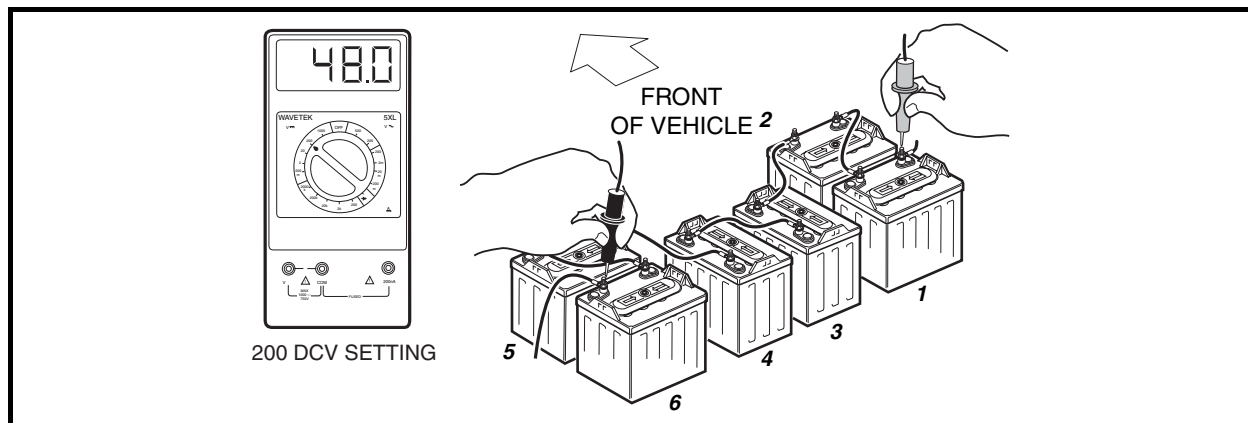

Figure 11-7 Battery Test
1. With batteries connected and using a multimeter set to 200 volts DC, place red (+) probe on the positive (+) post of battery no. 1 and the black (–) probe on the negative (–) post of battery no. 6 (**Figure 11-7, Page 11-18**). The multimeter should indicate at least 48 volts with the batteries fully charged. If not, check for loose battery connections or a battery installed in reverse polarity. Refer to Section 14 – Batteries, for further details on battery testing.